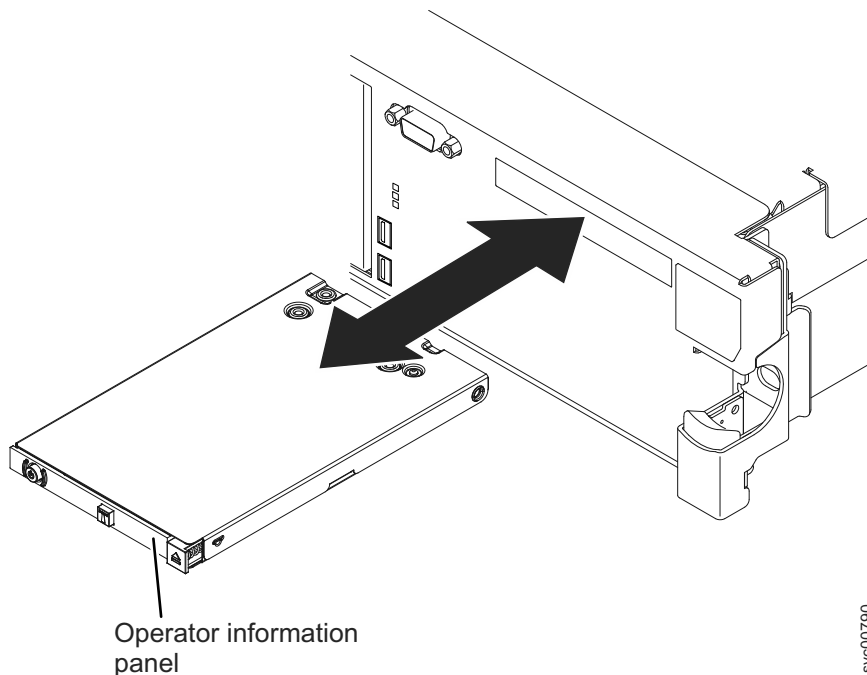

Figure 162. Removing the 2145-DH8 operator-information panel assembly
4. From the front of the node, slide the operator-information panel assembly out of the node, as shown in Figure 162.